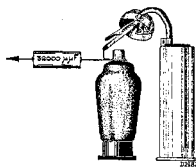

Fig. 2.
7. Apply modulated signal of 128 K.C. via 32,000  $\mu\mu\text{F}$  to the fourth grid of L1 (Fig. 2).